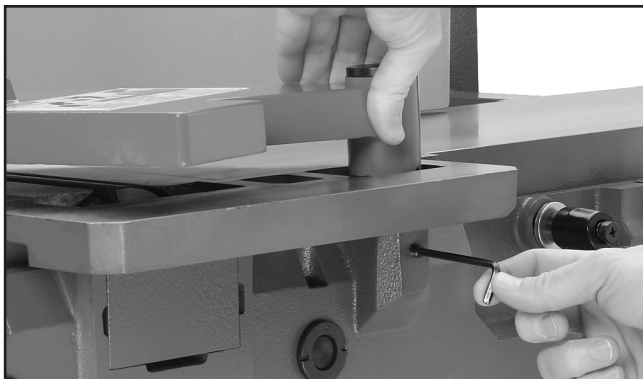

Figure 17. Installing the cutterhead guard.
2. Insert cutterhead guard shaft so the flat is facing the set screw, then tighten the set screw against the shaft (see **Figure 17**), keeping the guard approximately $\frac{1}{8}$ " off the table.